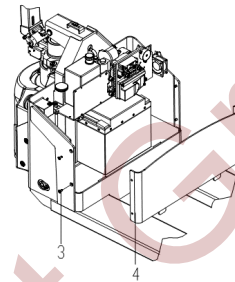

Fig.12
- (Fig.12) Screw out the screw 3 and remove the rear case cover 4;